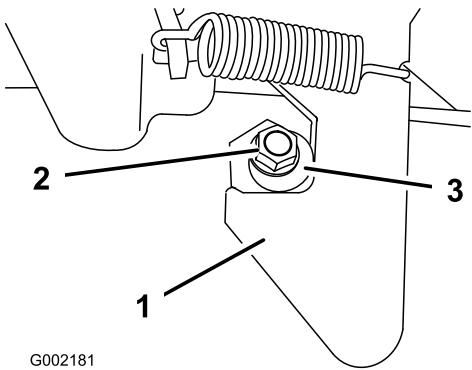

Figure 54
1. Loosen the locknut on the end of the latch post (Figure 54).
2. Rotate the latch post clockwise until it is snug against the hook portion of the latch (Figure 54).